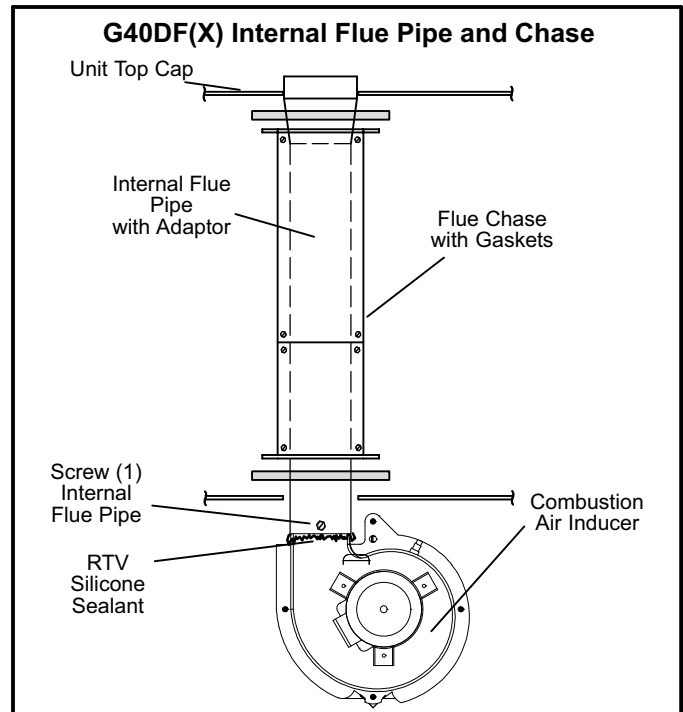

FIGURE 26
- 3 - Remove the screw that secures the internal flue pipe to the combustion air inducer. See figure 26.